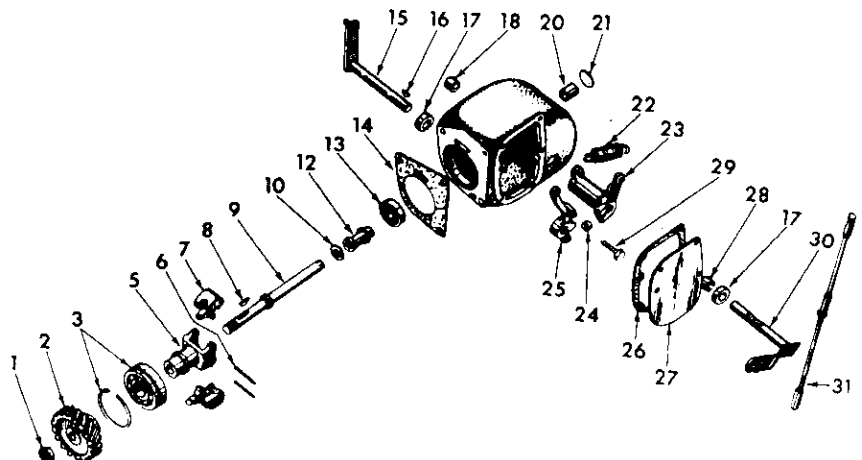

Fig. 45—Exploded view of the governor used on Series B-414 and 354 non-diesel engines.
With timing gear cover off, remove drive gear retaining nut and drive gear. Disconnect throttle control rod and carburetor rod from governor levers, then remove the cap screws (S—Fig. 36) and pull governor assembly from engine front plate. Bearing (3—Fig. 45), weight carrier, weights, shaft and thrust bearing assembly can be removed from housing after removing snap ring (3). Rockshaft lever (23) and spring lever (25) and their shafts can be removed after loosening the clamping cap screws. Any further disassembly required will be obvious.